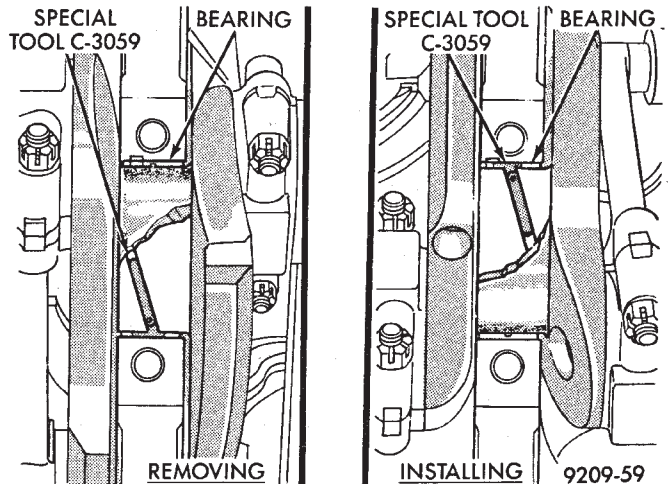

Fig. 8 Removing and Installing Upper Main Bearing With Special Tool C-3059
- (1) Remove oil pan and identify bearing caps before removal.
- (2) Remove bearing caps one at a time. Remove upper half of bearing by inserting Special Main Bearing Tool C-3059 (Fig. 8) into the oil hole of crankshaft.
- (3) Slowly rotate crankshaft clockwise, forcing out upper half of bearing shell.
- (1) Start bearing in place, and insert Main Bearing Tool C-3059 into oil hole of crankshaft (Fig. 8).
- (2) Slowly rotate crankshaft counter-clockwise sliding the bearing into position. Remove Special Main Bearing Tool C-3059.